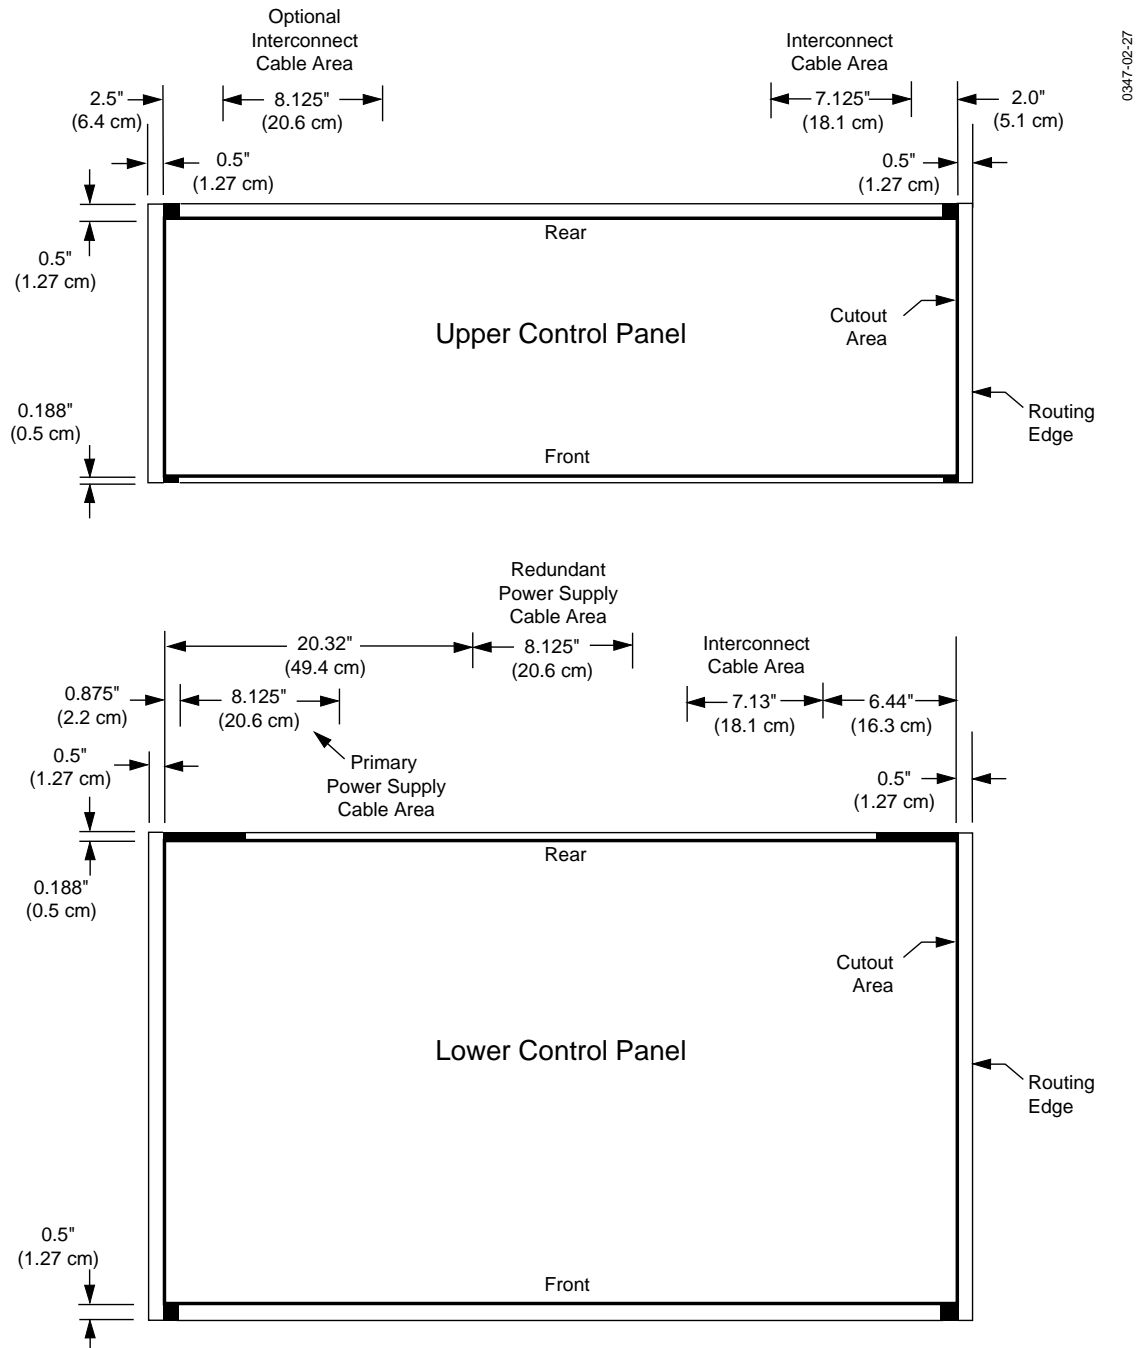

Figure 2-8. Model 4000-3 Routing and Cable Clearance
2. Route a 1/2" (12 mm) by 3/8" (9 mm) lip around the right, left, and top edge of the cutout. For clarification the routed edges of the cutout are illustrated in Figure 2-8.
3. Route a 3/8" (9 mm) by 3/16" (4.5 mm) lip on the lower edge of the cutout as illustrated in Figure 2-8.